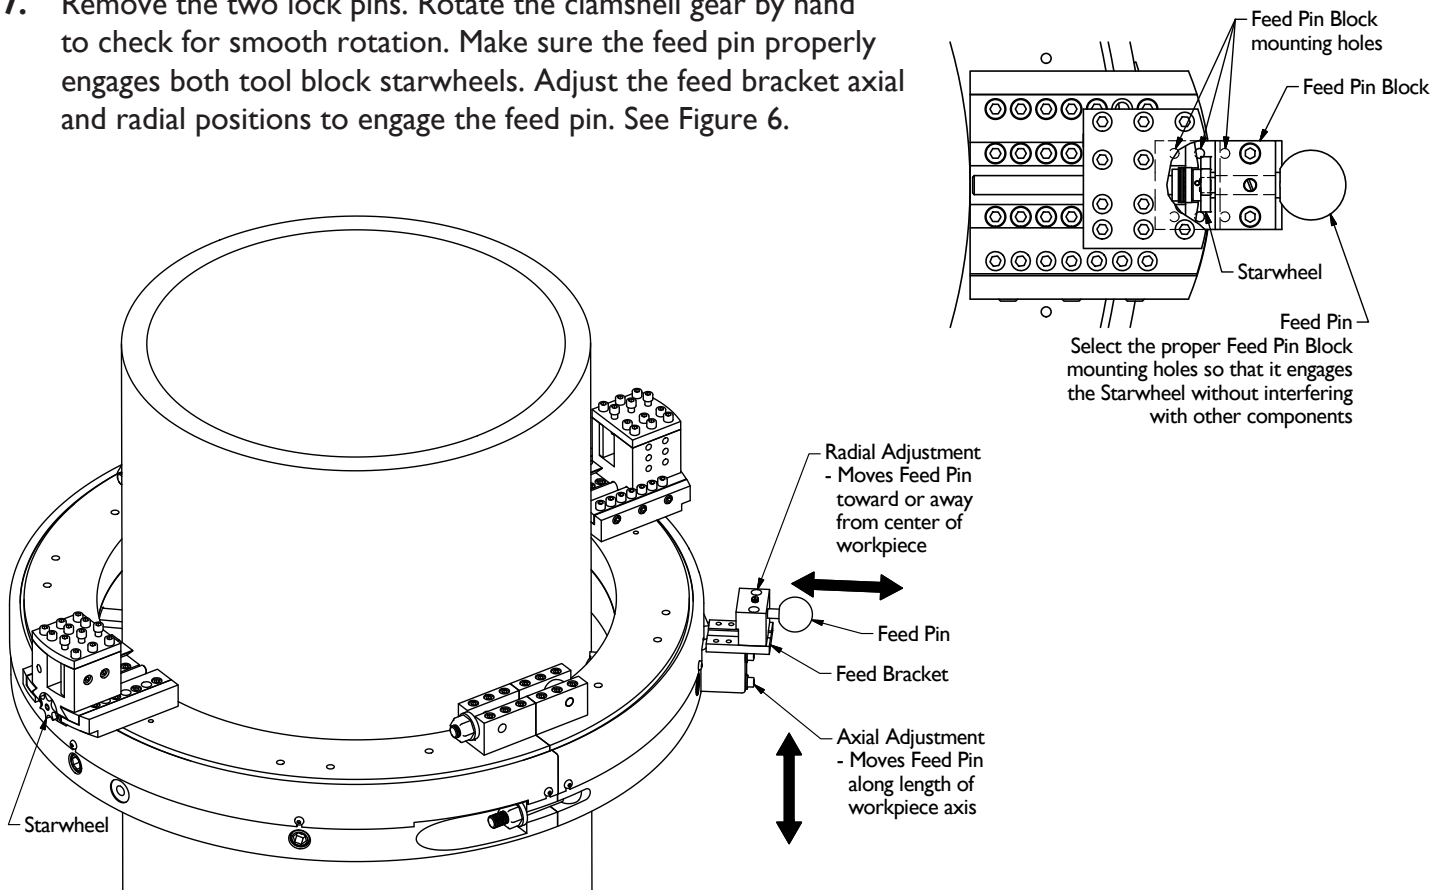

Figure 6 - Set Feed Pin Axial and Radial Positions
7. Remove the two lock pins. Rotate the clamshell gear by hand to check for smooth rotation. Make sure the feed pin properly engages both tool block starwheels. Adjust the feed bracket axial and radial positions to engage the feed pin. See Figure 6.